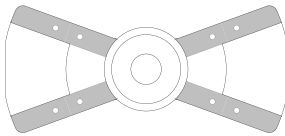

Fig. 1 Location of Drill Holes
1. Upon opening carton, remove Set Collar (D), Chain Guide (C), and Hammer (B) from Anvil (A).
3. Place clamps (E) on marked surface of Anvil, centering the holes over outline of wheel. Mark and center-punch holes in clamps on the Anvil in the locations shown (Reference Fig. 1). Next, drill Anvil with clearance for bolts. Countersink top side of Anvil for flat head machine bolts.